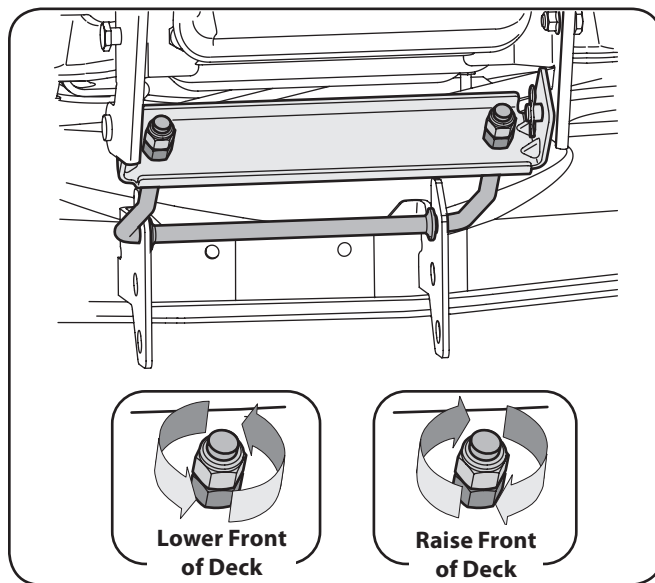

Figure 6-6
3. Working at the front of the tractor, loosen the two hex locknuts at the front of the deck hanger rod. Thread the lock nuts away from the hex nuts behind them. Refer to Fig. 6-6.
4. Use an open end wrench to turn the inner hex nuts to adjust the front of the deck. Turn the hex nuts clockwise to raise the front of the deck, or counterclockwise to lower the front of the deck. Adjust the hex nuts evenly so that the deck hanger rod is at the front of both slots in the hanger bracket on the front of the deck. See Fig. 6-6.